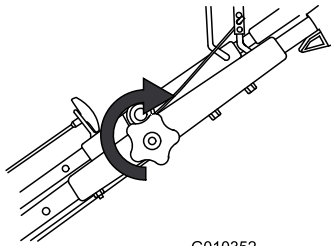

**Figure 16**
2. Move the upper handle to the desired position (Figure 16).